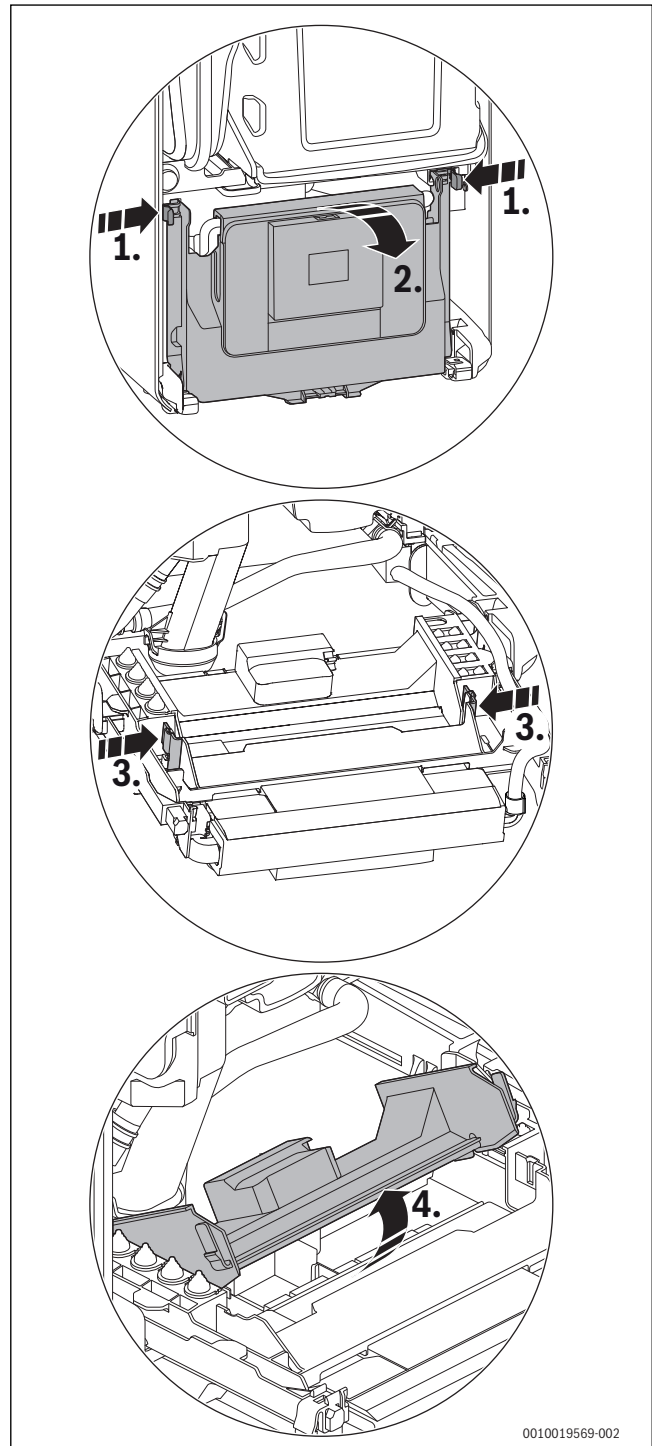

Fig. 52 Opening the cover
- ▶ Flip down the control appliance (→ Fig. 52).